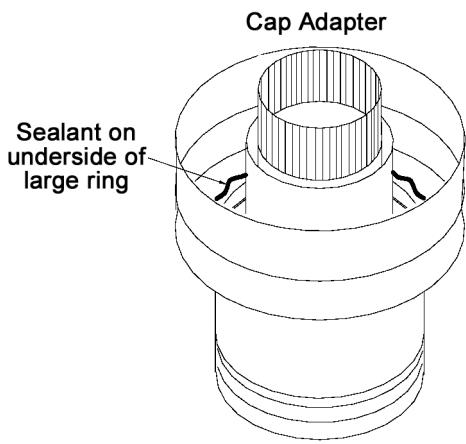

Figure 4
- Put a thick bead of sealant around the inside of the cap adapter on the underside of the larger ring (relative to where the flange on the 7RLM will mate up). See Figure 4.
12. Put a thick bead of sealant around the inside of the cap adapter on the underside of the larger ring (relative to where the flange on the 7RLM will mate up). See Figure 4 and 16.